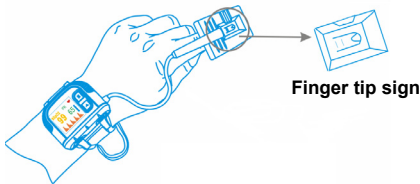

Figure 4 Placement Demonstration
1. Firstly fix the oximeter on your left wrist (Figure 4);
2. Then, hold the probe with its opening towards your index finger. The probe should be oriented in such a way that the sensor side with a finger sign is positioned on the top (Figure 4).